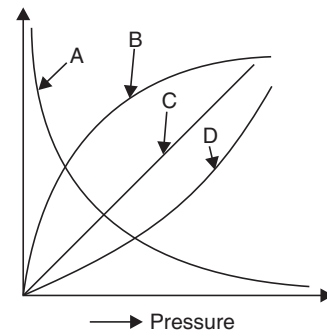

FIGURE 5.12
99. Which of the curves shown in Fig. 5.12 represents the variation of saturation temperature with pressure?
100. Which of the curves shown in Fig. 5.12 represents the variation of specific volume of steam with pressure?